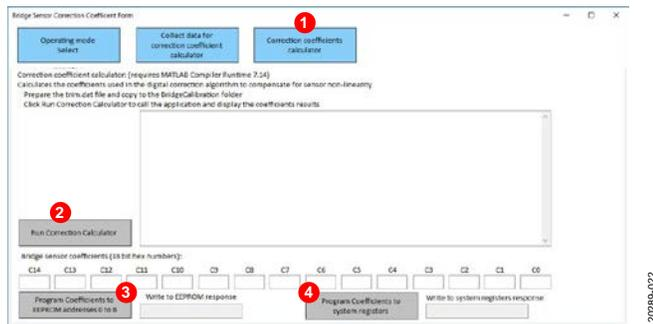

Figure 22. Generate the Bridge Sensor Linearization Coefficients
1. Click **Correction coefficients calculator** (Label 1 in Figure 22).
2. Click **Run Correction Calculator** (Label 2 in Figure 22). The calculator is called and the progress displays in the main text box window. Once completed, the coefficient values (hex ADC codes) display in the 15 text boxes, **C0** through **C14** shown in Figure 22.
3. After the calculator completes successfully and displays the coefficients, click **Program Coefficients to EEPROM address 0 to 8** (Label 3 in Figure 22) and verify the **Write to EEPROM response** returns **Positive**.
4. The EVAL-ADA4558EBZ operates from the system registers. Click **Program Coefficients to system registers** to update the registers (Label 4 in Figure 22).